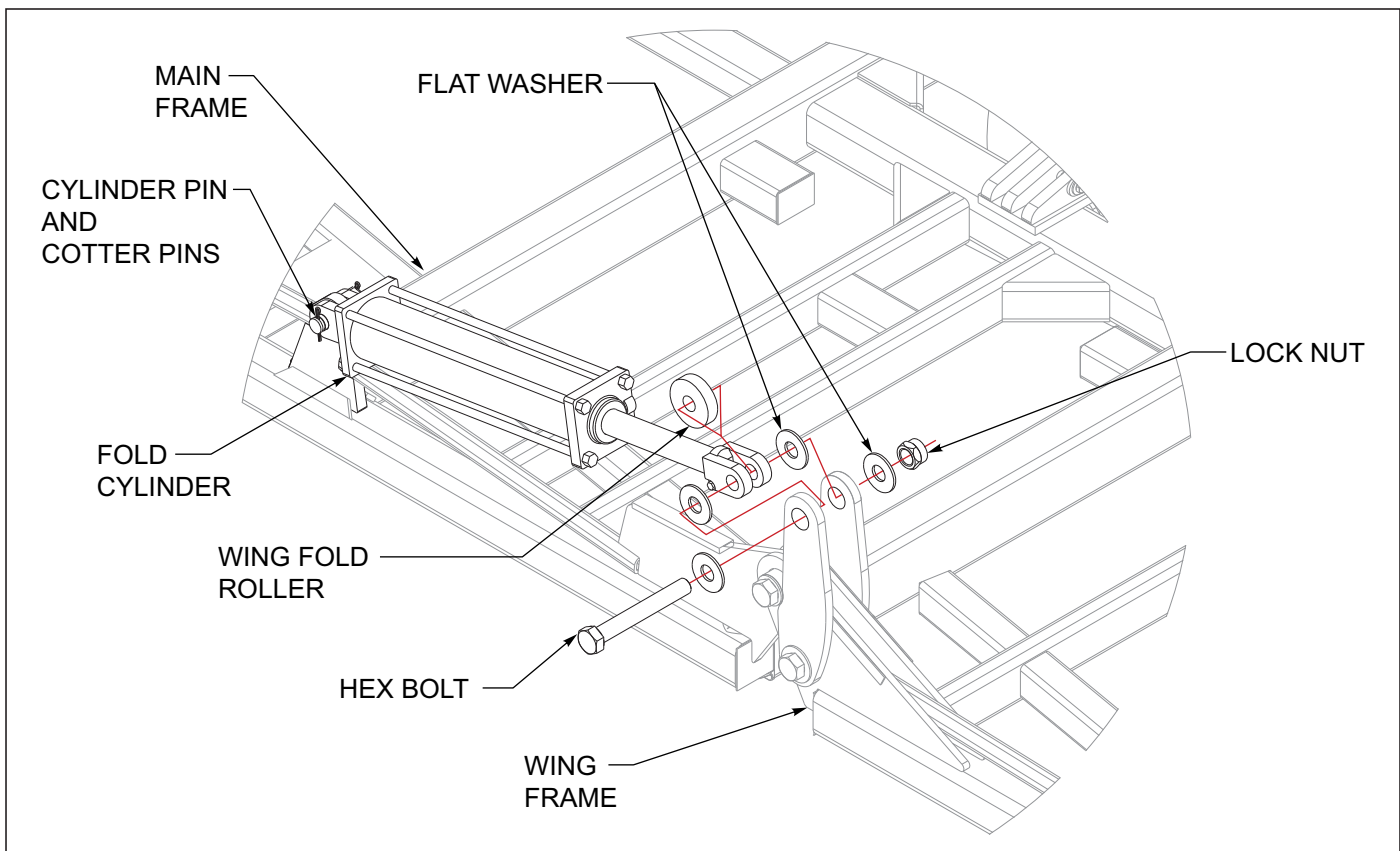
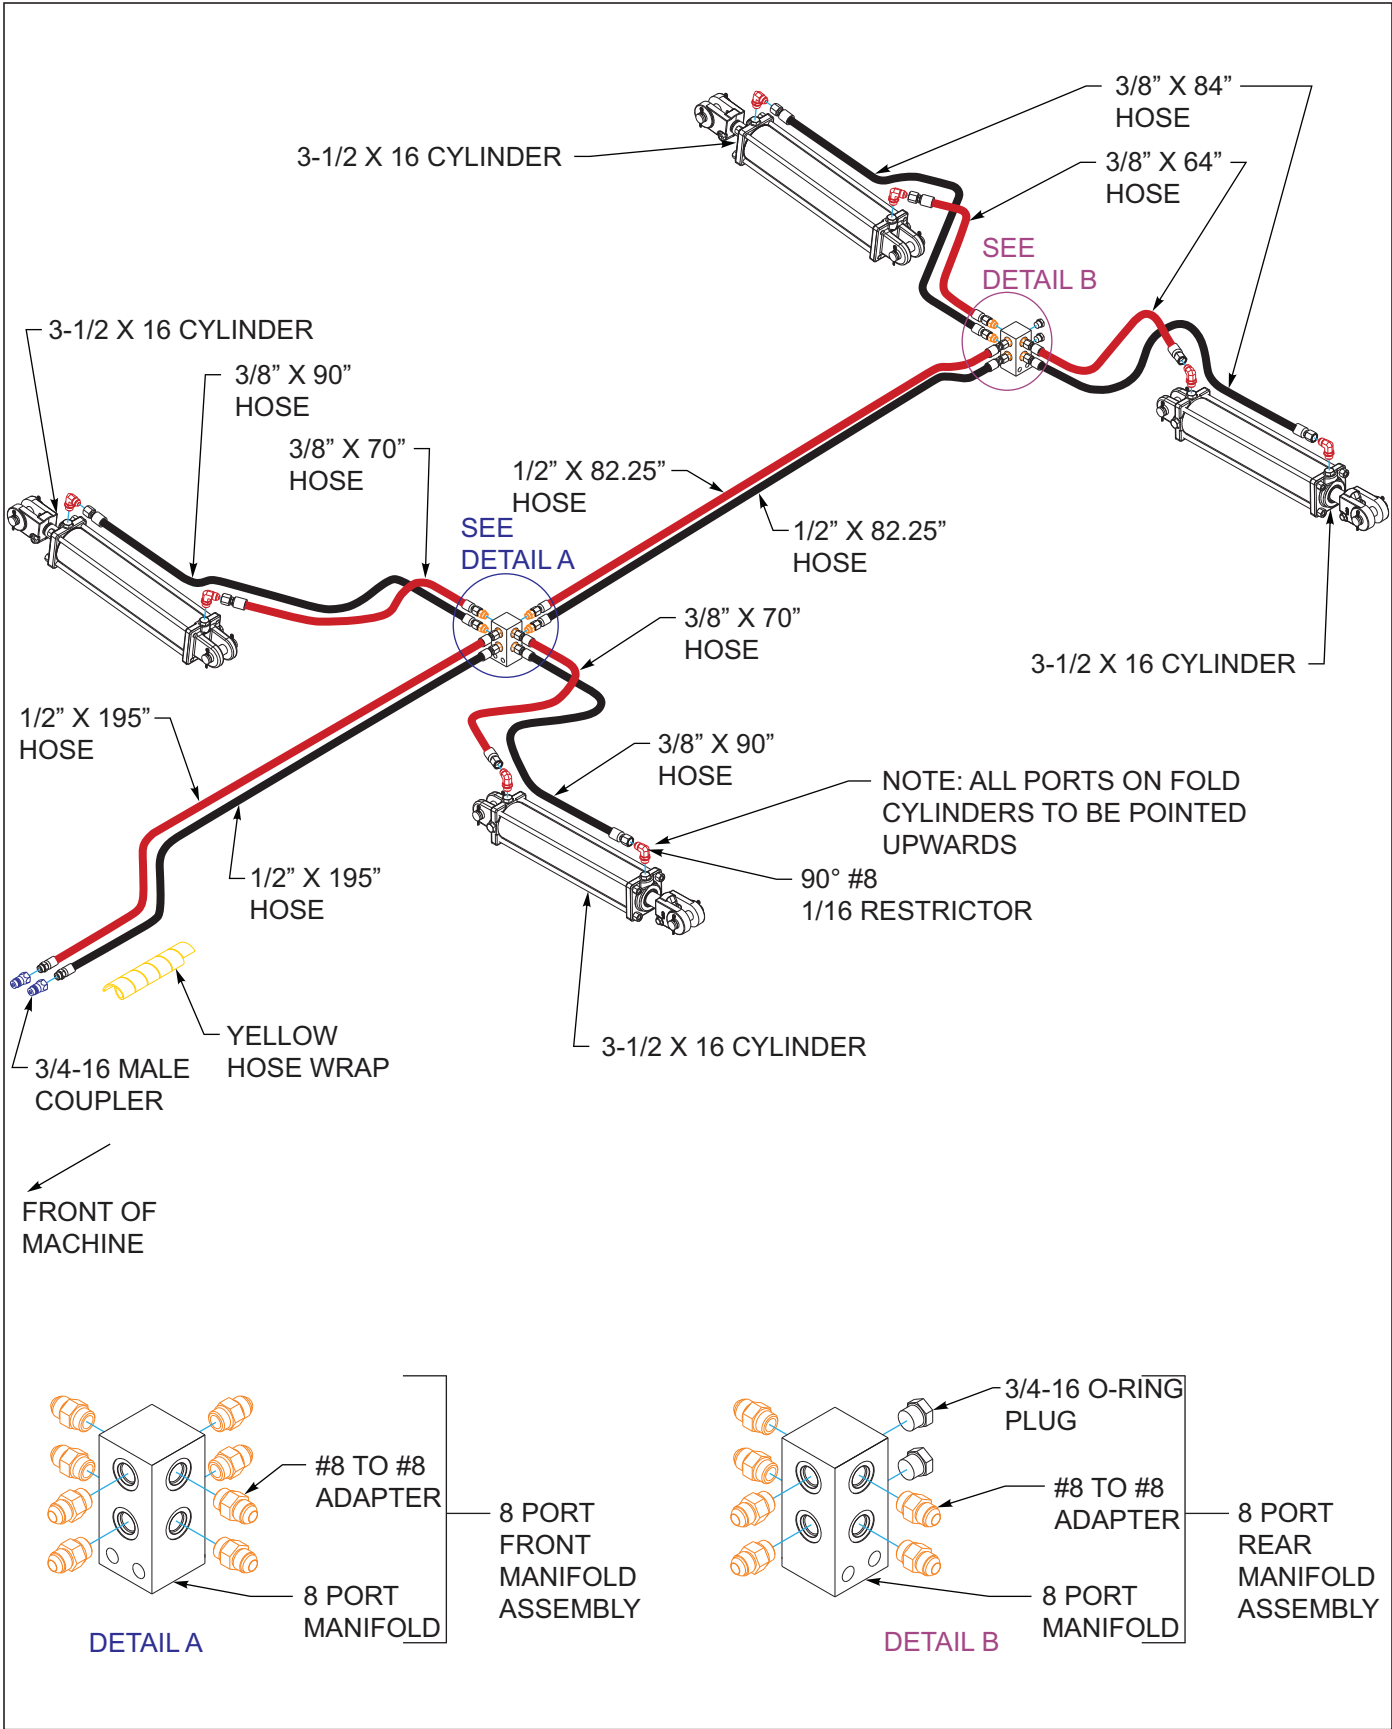

Figure 3-22: Hydraulic Fold Installation
Figure 3-23: Hydraulic Fold Installation 877-30'
4. Install the 8 port manifold to front 2 hole plate of center frame using 1/2 x 3-1/2 bolts and 1/2 lock nuts See Figures 3-23 through 3-25.
1. Install base end of fold cylinders to the main frame cylinder anchors using cylinder pins and cotter pins provided *See Figures 3-22*. Model 877-30' fold cylinders are to be installed with ports facing upward. Models 877-35'-40' cylinders are to be installed with the ports facing the rear of the machine *See Figures 3-23 and 3-24*.
3. On 30' models, *only after the fold cylinders have been charged with oil*, assemble the rod end of the fold cylinder to the wing fold plates and wing fold roller using 1 x 7-1/2 bolts, 1" flat washers and locknuts. Use flat washers on both outside and inside of each wing fold plate *See Figures 3-22*.
4. On 35' and 40' models, *only after the fold cylinders have been charged with oil*, assemble the rod end of the fold cylinder to the wing fold plates and wing fold roller using 1-1/4 x 8 bolts, 1-1/4 flat washers and locknuts. Use flat washers on both outside and inside of each wing fold plate *See Figures 3-22*.
6. Install fold cylinder hoses and couplers *See Figures 3-23 and 3-24*. Model 877-30' wrap fold cylinder hoses with yellow hose wrap. Models 877-35'-40' wrap RH fold cylinder hoses with yellow hose wrap and LH fold cylinder hoses with black hose wrap.